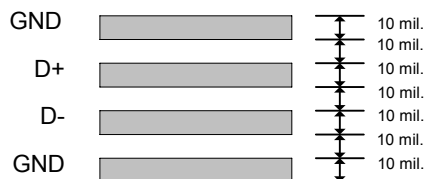

Figure 10.6 Suggested Minimum Track Width and Spacing
3. The Remote Diode + and Remote Diode - tracks should be kept close together, in parallel with grounded guard tracks on each side. Using wide tracks will help to minimize inductance and reduce noise pickup. A 10 mil track minimum width and spacing is recommended. See Figure 10.6, "Suggested Minimum Track Width and Spacing".